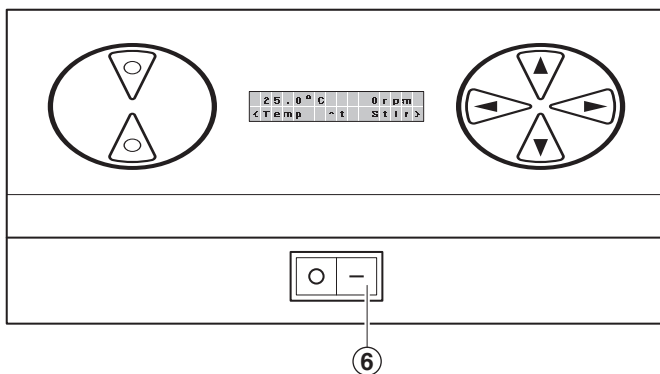
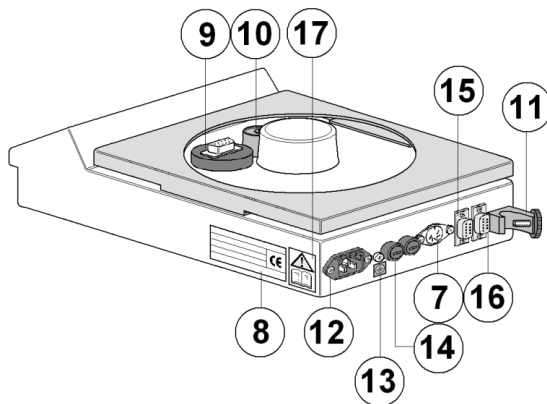

Figure 6
Figure 7
7.4.1. Connect the mains cord and moulded IEC plug and lead set cable supplied with the Omni Reaction Station into the mains power inlet socket (See Figure 7: Omni Reaction Station Control Unit - Rear View). Press the On / Off switch (See Figure 6: Keypad and LCD Screen) to the on position.